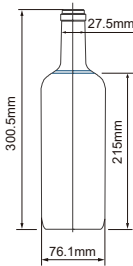
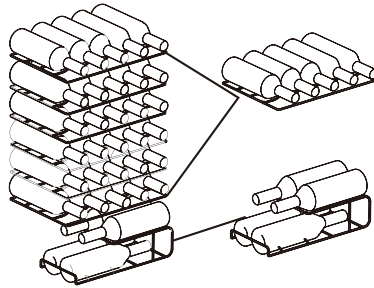

Fig. 1
Fig. 2
- The capacity for bottle storage in the wine cabinet (shown as Fig.2) is based on the following marked bottle size (Fig.1) . Oversized bottle may have impact on the number of bottle storage in the wine cabinet.
- The recommended maximum bottling volume is 34 bottles, as Fig.2